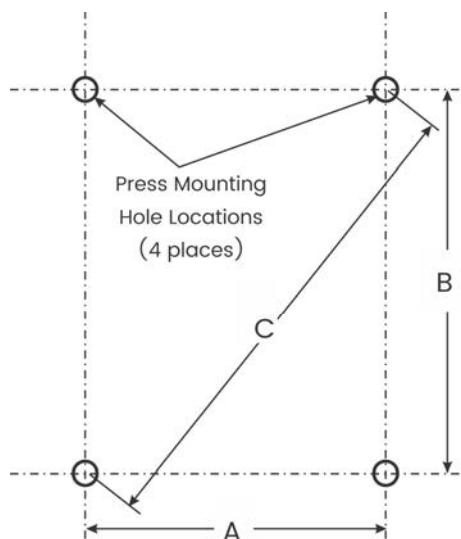

Figure 1
3. Determine the desired location of the press and layout the press mounting hole positions on the floor as per Figure 1. Make sure the layout is square. See Table 1 in the Appendix for press base dimensions.